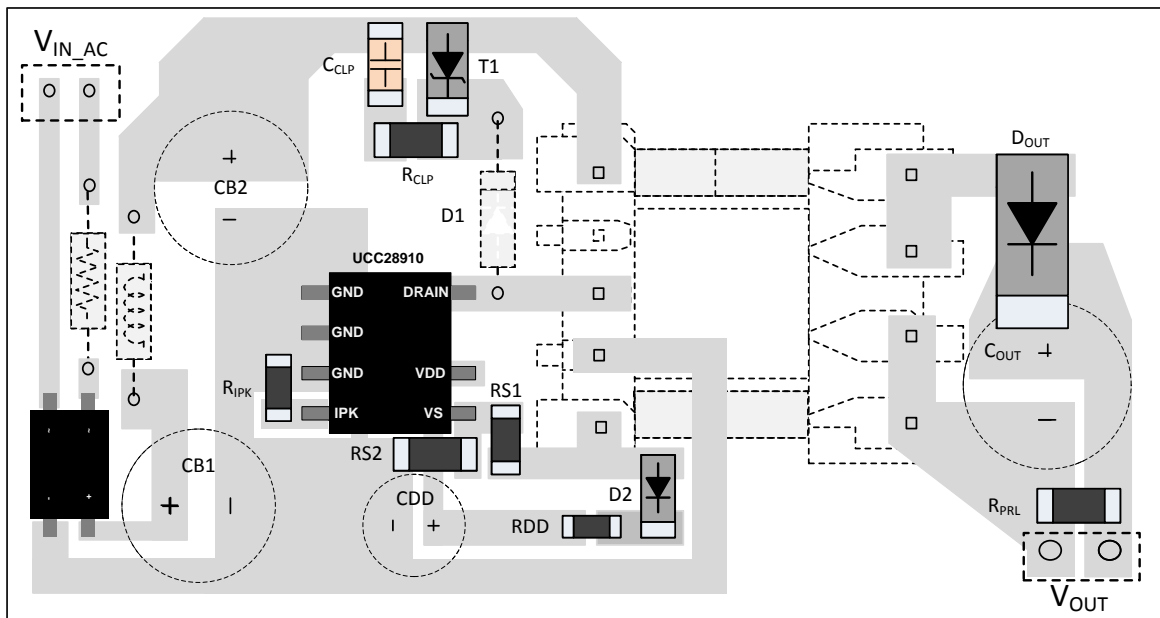

Figure 52. UCC28910 Layout Example
5. Place the auxiliary voltage sense resistor divider ( $R_{S1}$  and  $R_{S2}$  in Figure 52) directly on the VS pin keeping traces as short as possible.